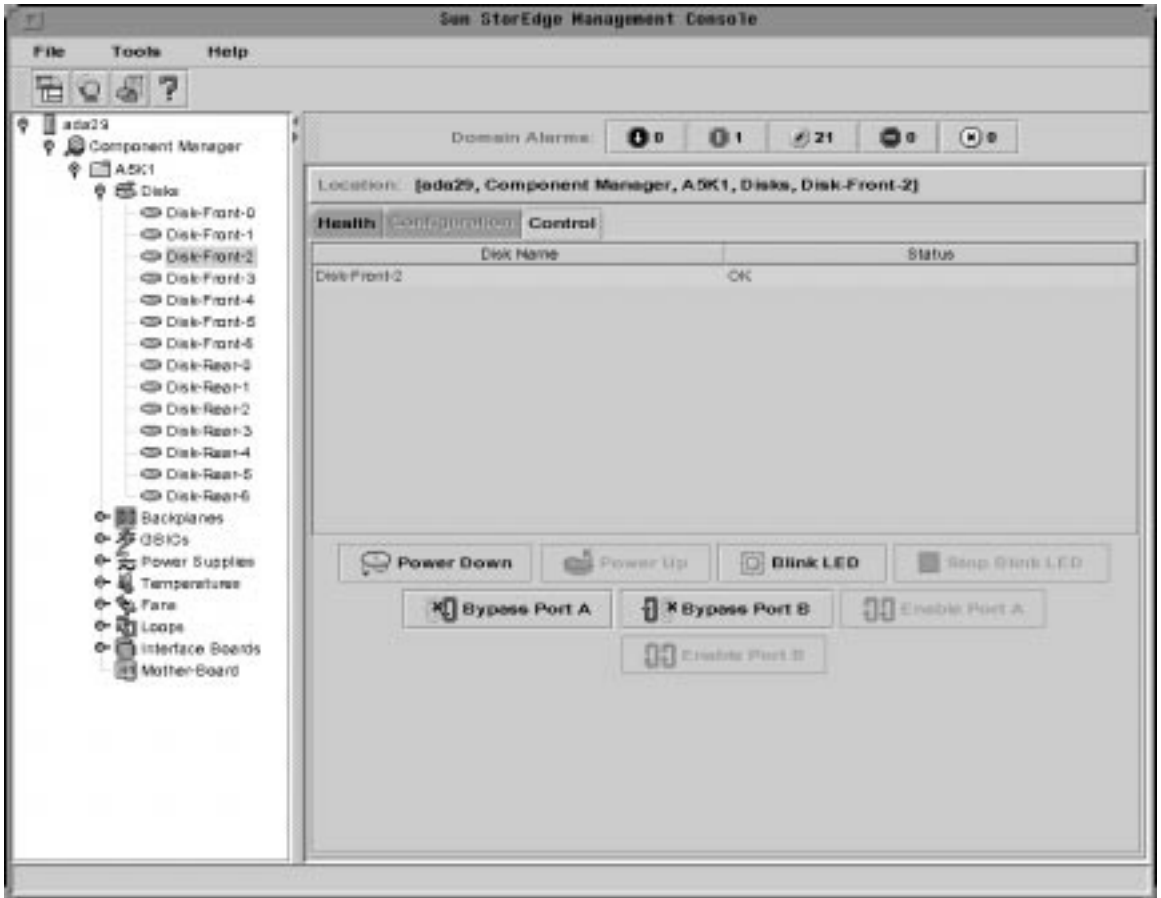

FIGURE 3-3 Control Disk Window
3. Select the Control Tab (see FIGURE 3-3).